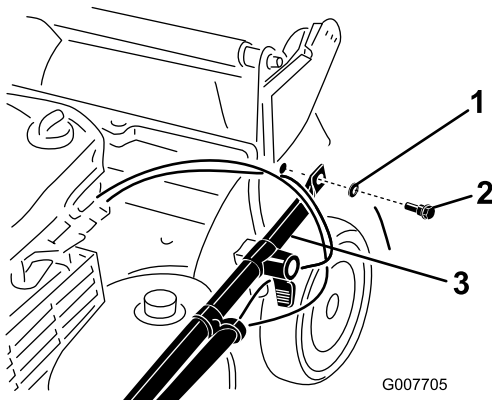

Figure 4
3. Attach the handle ends to the mower housing with 2 washers and 2 handle bolts (Figure 4), **but do not tighten the handle bolts.**
Important: Route the cables to the *outside* of the handle (Figure 4).